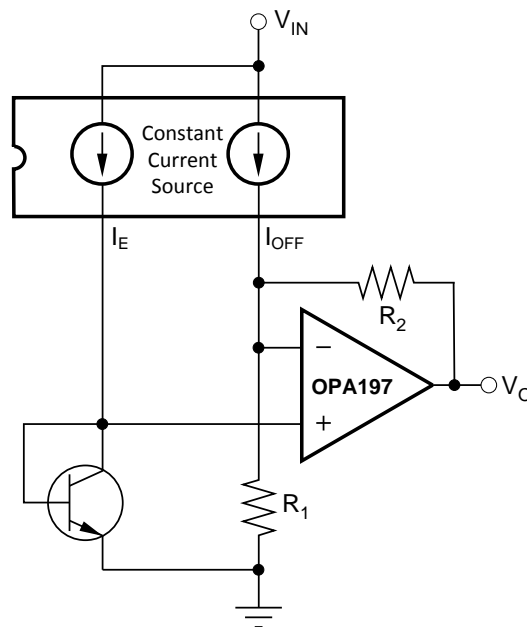
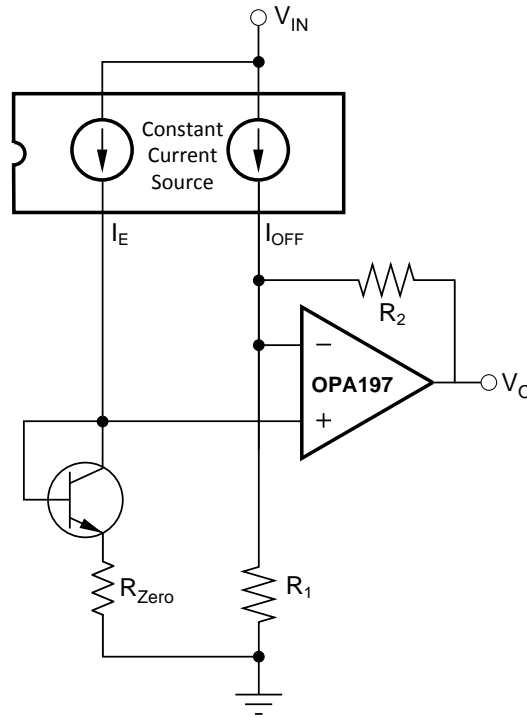
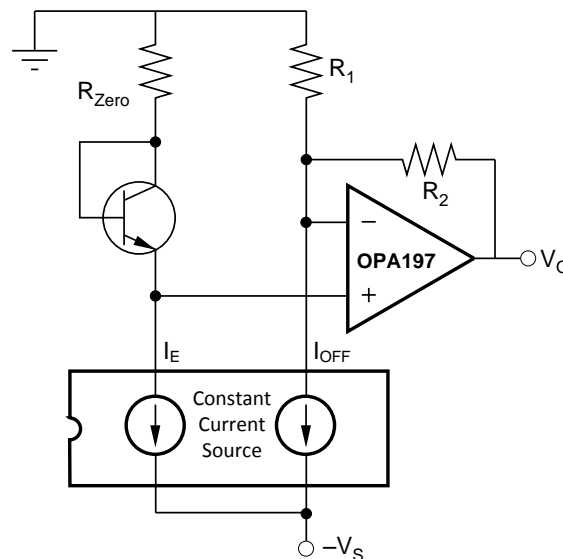
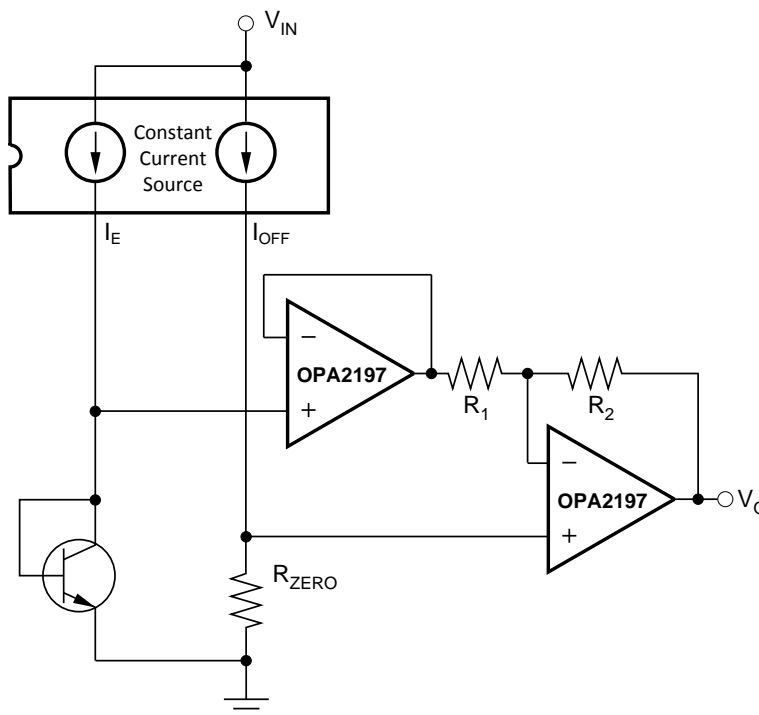

Figure 4. Simple Diode-Based Temperature Measurement Circuit
Figure 5. Temperature Measurement Circuit With Independent Gain and Offset Adjustment
Figure 6. Positive Temperature Measurement Circuit with Negative Supply
Figure 7. Positive Transfer Function Temperature Measurement Circuit With Positive Supply
Figure 4 shows the simplest diode-based temperature measurement system. One of the current sources is used for diode excitation. The other current source is used for offsetting. One disadvantage of this circuit is that the span (GAIN) and zero (OFFSET) adjustments are interactive. You must either accept the initial errors or use an interactive adjustment technique. Another possible disadvantage is that the temperature to voltage are inversely proportional. In other words, a positive change in temperature results in a negative change in output voltage. If the output is to be processed in a digital system, neither of these limitations may be a disadvantage.
- V_{BE25} = Diode voltage at 25°C (V)
- V_1 = Output voltage of circuit at T_{MIN} (V),
- V_o = Output voltage of circuit (V),
- $\delta V_o / \delta T$ = Desired output voltage change for given temperature change (V/°C) (Note: Must be negative for the Figure 4 circuit.) (3)
- $\delta V_o / \delta T$ = Desired output voltage change for given temperature change (V/°C) (Note: Must be negative for the Figure 4 circuit.) (4)
If independent adjustment of offset and span is required consider the circuit shown in Figure 5. In this circuit, a third resistor, R_{ZERO} is added in series with the temperature-sensing diode. System zero (offset) can be adjusted with R_{ZERO} without affecting span (gain). To trim the circuit adjust span first. Either R_1 or R_2 (or both) can be used to adjust span. Similar to the circuit in Figure 4, this circuit has the disadvantage that the temperature to voltage conversion is also inverting.
The following relationships can be used to calculate nominal resistor values for the Figure 5 circuit.
For a noninverting temperature to voltage conversion, consider the circuit shown in Figure 6. This circuit is similar to the circuit in Figure 5, except that the amplifier is connected to the low side of the diode. With this connection, the temperature to voltage conversion is noninverting. As before, if adjustment is required, adjust span with R_1 or R_2 first, then adjust zero with R_{ZERO} . A disadvantage of this circuit is that it requires a negative power supply.
The following relationships can be used to calculate nominal resistor values for the Figure 6 circuit.
For a single-supply noninverting temperature to voltage conversion, consider the Figure 7 circuit. This circuit is similar to the circuit in Figure 5, except that the temperature-sensing diode is connected to the inverting input of the amplifier and the offsetting network is connected to the noninverting input. To prevent sensor loading, a second amplifier is connected as a buffer between the temp sensor and the amplifier. If adjustment is required, adjust span with R_1 or R_2 first, then adjust zero with R_{ZERO} .
The following relationships can be used to calculate nominal resistor values for the Figure 7 circuit.
For differential temperature measurement, use the circuit shown in Figure 5. In this circuit, the differential output between two temperature-sensing diodes is amplified by a two-op-amp instrumentation amplifier (IA). The IA is formed from the two op amps in a dual OPA1013 and resistors R_1 , R_2 , R_3 , R_4 , and R_{SPAN} . R_{SPAN} sets the gain of the IA. For good common-mode rejection, R_1 , R_2 , R_3 , and R_4 must be matched. If 1% of resistors are used, CMR is greater than 70 dB for gains over 50 V/V. Span and zero can be adjusted in any order in this circuit.